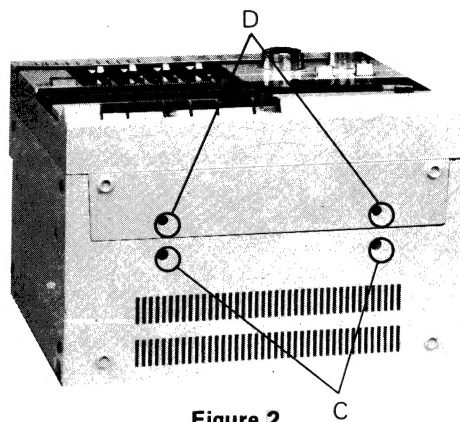

Figure 2
2. Remove the two screws (C) from the base side of set. (See figure 2.)
2. Remove the two screws (D) from the base side of set. (See figure 2.)